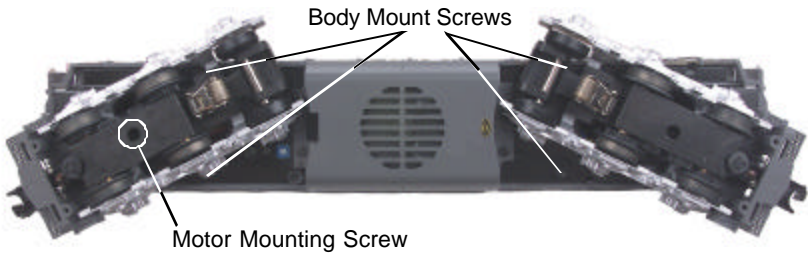

Figure 5: Body Removal Screw Locations
1. To access the gear box, remove the cab from the chassis by unscrewing the chassis screws as seen in Figure 5 and lifting the cab from the chassis.
2. Once the cab is removed, remove the trucks by unscrewing the black Phillips motor mount screw located on the underside of the drive trucks (see Fig. 5).